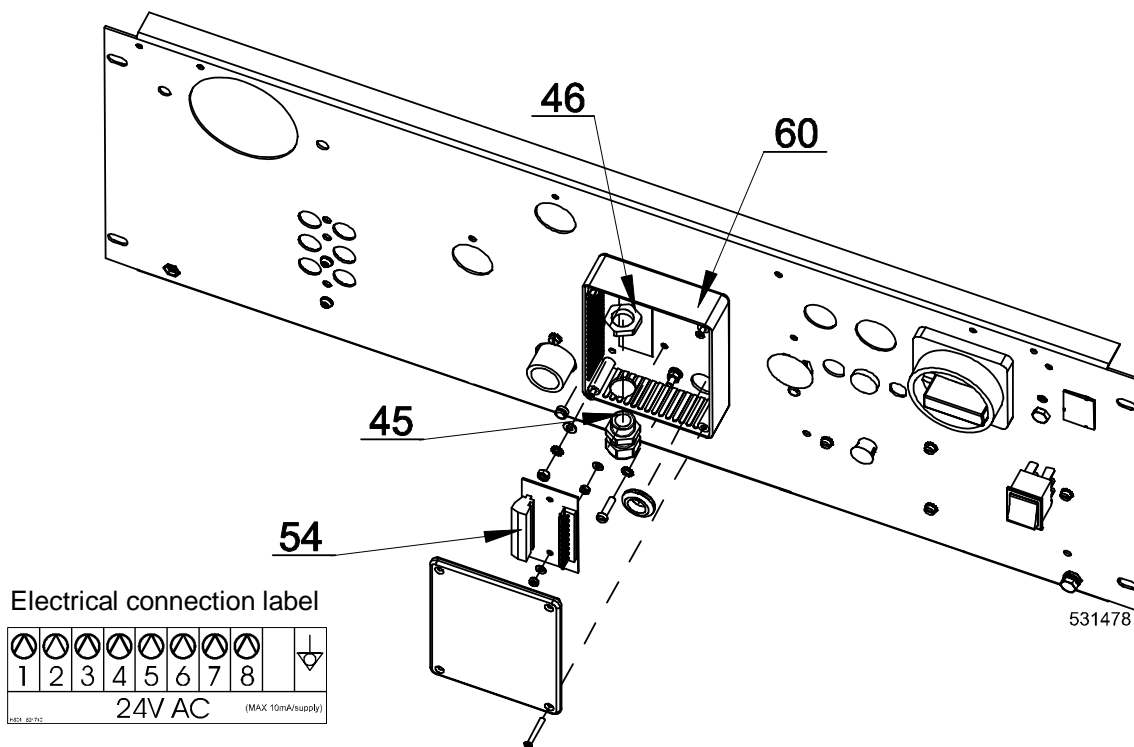

Fig.4.8.G
For electric connection of supply control signals a plastic box is available on the back side of the machine (see fig.4.8.G., pos.60) with the terminal box with LED signalization of activation of the respective pump, (pos.54). Under the terminal box there is a label for electric connection, fig.4.8.G. Detail connection of signals could be also found on the electric scheme of the machine. Signals for supply pumps control are 24V AC. Maximum current for control circuits of pumps must be limited to 10mA. Lead the cable for connection of pumps control signals through the plastic cable bushing, position 45. After connection of conductors to the respective positions of the connector „P“ (screw clamps), fix up the cable by tightening the cable bushing against disconnection and close the box with the cover. For details about liquid soap supply system programming, see Programming manual.